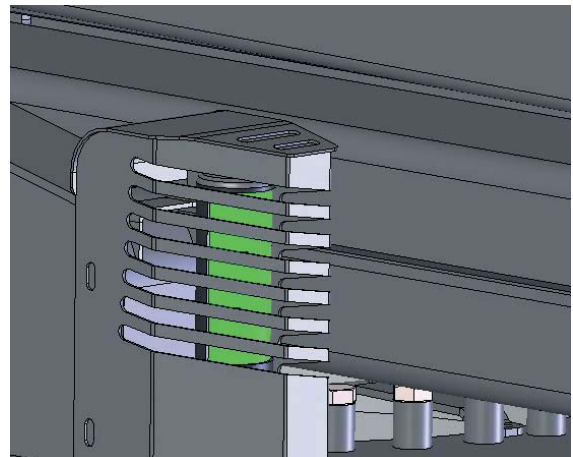

Fig 3.10
- check the green lamp on the turntable, it must be switched on, to confirm that the boom is in central, low and retracted position (Fig. 3.10).
To retract the stabilizers, check that the green light on the turntable (Fig. 3.10) is lighted on. Turn the key 2 of fig. 3.1 on stabilizer symbol, use the accelerator lever part. 6 of fig. 3.4 and the lever from 1 to 4 in the upward direction of the stabilizers until the stabilizers are fully retracted. This operation can be done in automatic mode using the selector on the main panel (11 fig. 3.1) or the control panel at ground if the selector 10 of fig. 3.1 is on “AUT”.
To go back to rest position, retract the extension completely, close the jib, straighten the cage eventually rotated, put the chassis on axle rotating the turntable and lower with the first boom until the green light turn on (Fig. 3.10).
- check the green lamp on the turntable, it must be on (Fig. 3.10)